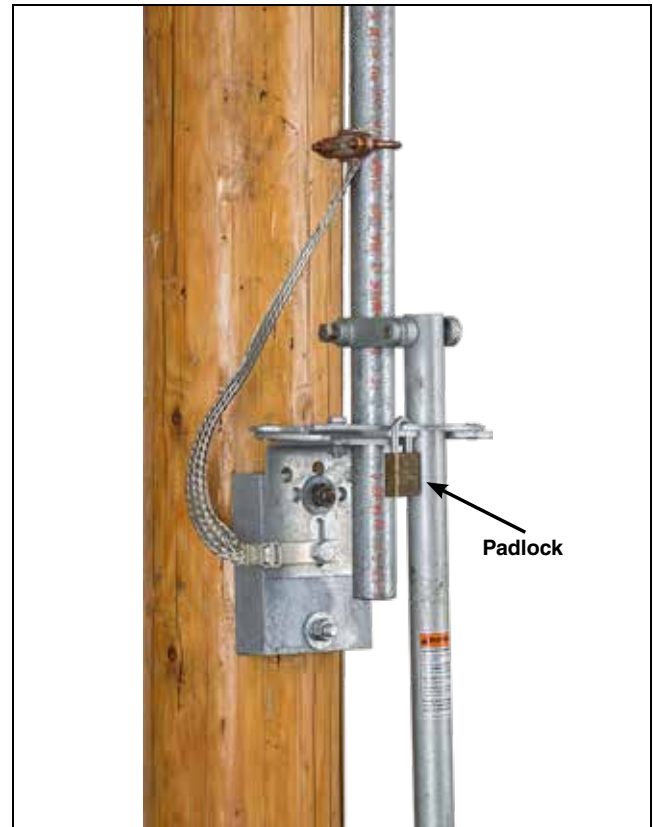

Figure 41. Remove the padlock(s).
STEP 33. Remove the padlock(s) from the hasps on the operating-handle assembly. See Figure 41.